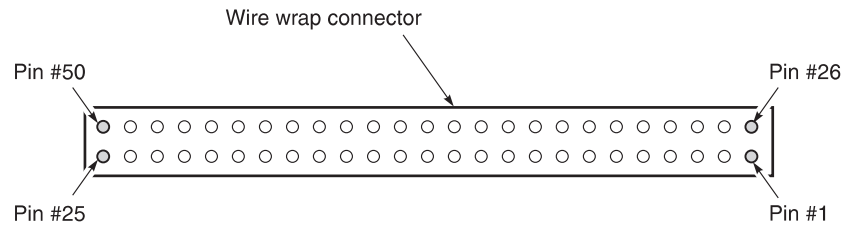

Figure 9. Installing the Subscriber Lines
8.7 Subscriber Lines. Connect the subscriber lines to the wire-wrap terminations (Figure 9):